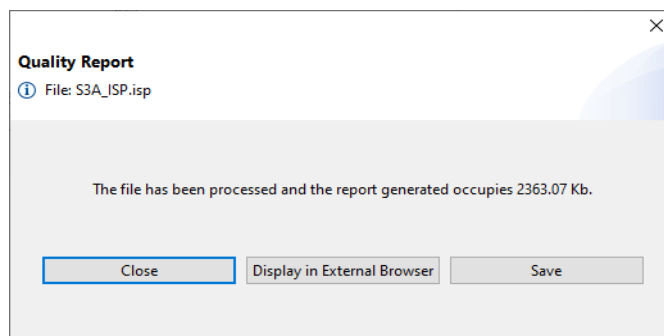

Figure 37: Finished Quality report dialog
- When the report is finished, a dialog is shown (Figure 37) to the user that enables opening the report in an external browser from a default location, or save it in a user specified location.